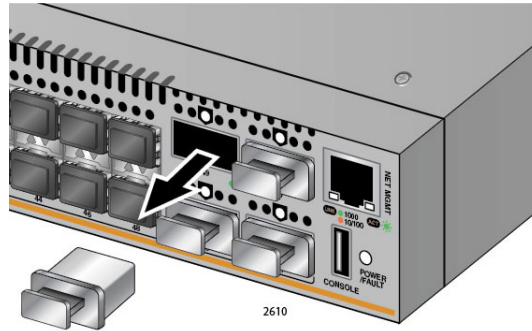

Figure 41. Removing QSFP+ Slot Dust Cover
2. Remove the dust cover from the chassis QSFP+ slot. See Figure 41 on page 78.